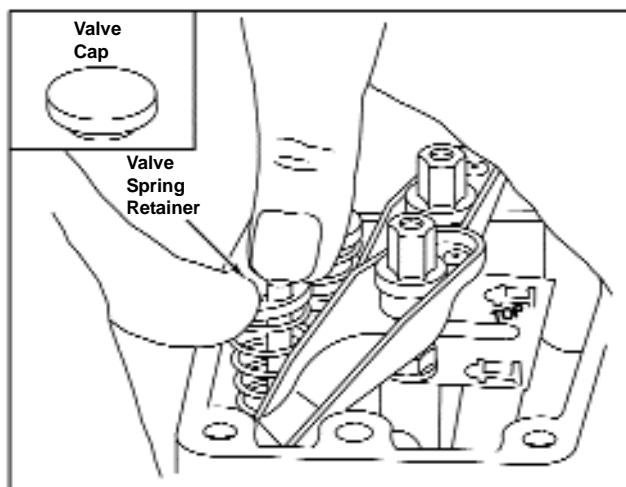

Figure 91 - Removing Valves
2. Remove valve cap (when used) from valve stems, Figure 10. With thumbs, press down on valve spring retainer and spring to compress until large end of slot in retainer can line up with end of valve stem, Figure 91.
3. With thumbs, press down on valve spring retainer and spring to compress until large end of slot in retainer can line up with end of valve stem. See Figure 91.
5. Remove retainer, spring, and intake valve seal and washer (when used), if removing intake valve, Figure 91.